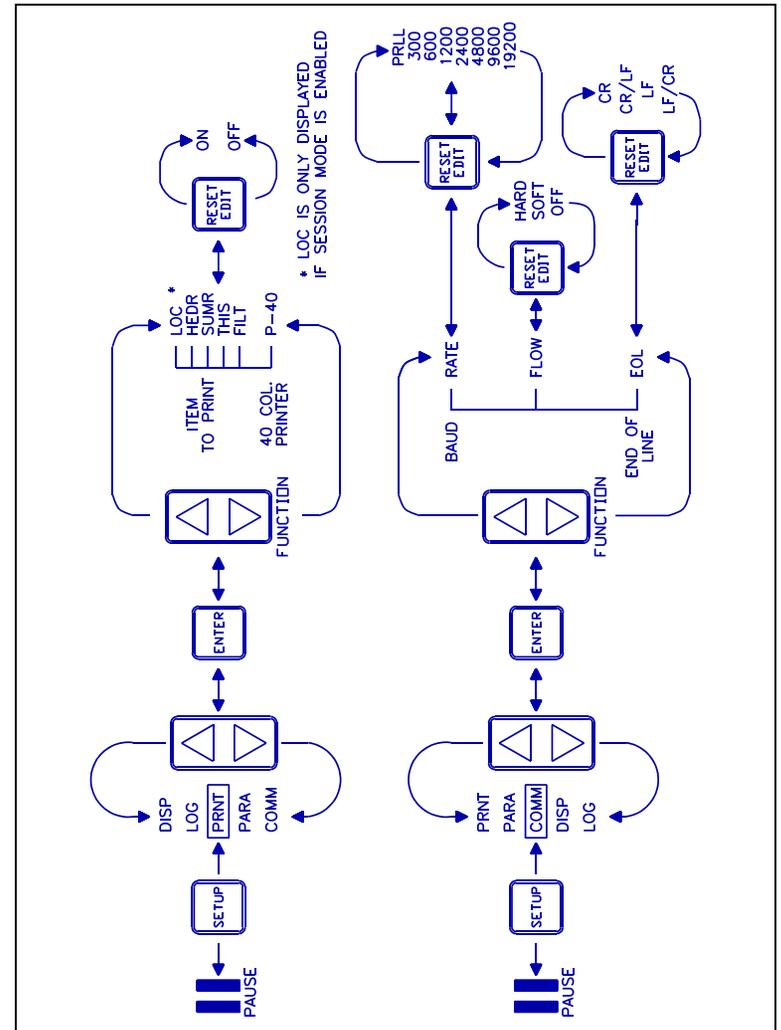

Figure 10. Print and Communications Setup Menus
**PRNT Setup Menu** (Data to be printed) Refer to Figure 10
**COMM Setup Menu** (Communications parameters) Refer to Figure 10